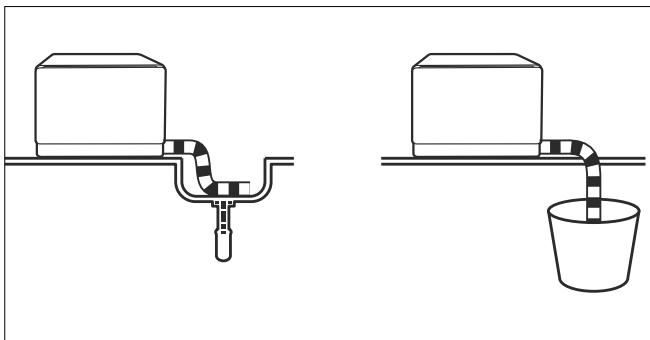

Fig. 14 – Draining into a sink or container
- ▶ Hang the end of the waste water hose into a sink or a sufficiently large container (≥ 12 litres) (see Fig. 14).
- ▶ Once you have connected it to the water supply and drainage, connect the mains plug (7) to a socket.